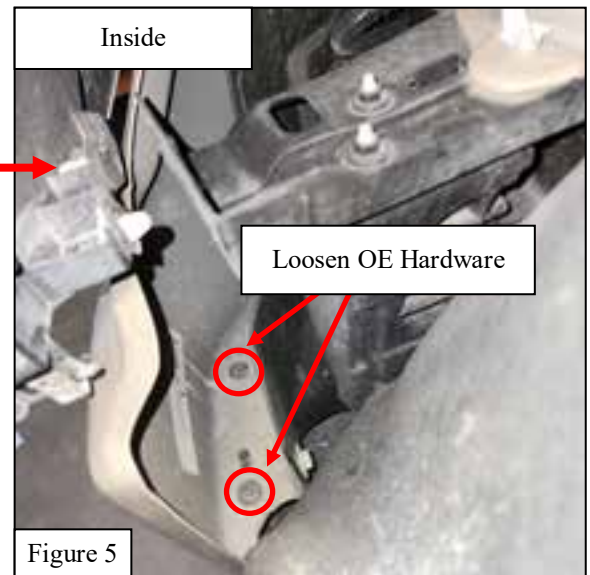

Figure 2
3. Remove the plastic cover shown in **Figure 2**. Use a pry tool to disengage and remove the clips retaining the plastic cover.